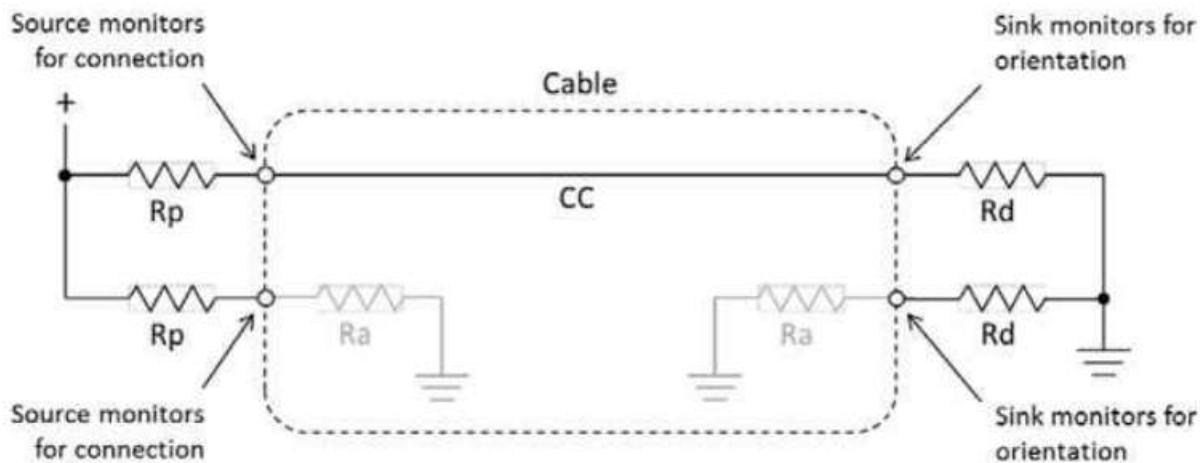

Figure 3. CC logic pullup and pulldown termination. (Source: USB Type-C specification v1.2, Figures 4 and 5 pullup and pulldown CC model)
- **Cable detection** occurs when one of the two CC lines pulls down (see Figure 3). A DFP will have both of its CC pins pull up with resistor R_p , and a UFP will have both of its CC pins pull down with resistor R_d . Once a DFP processor detects that one of its CC lines is pulled down, the DFP will know that a connection has been made.